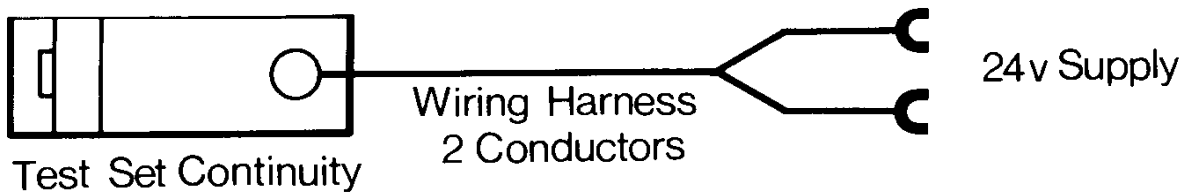

Fig 84.—Test Set 24V DC Battery Connections
- b. A 24V DC supply using the WIRING HARNESS, 2 conductors, (see Fig 84).